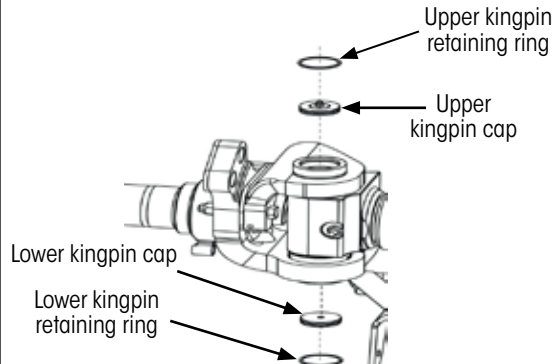

Figure 30: Installing kingpin cap assemblies
2. **Install** upper and lower kingpin cap assemblies (Figure 30) ensuring the O-rings are not damaged during assembly.